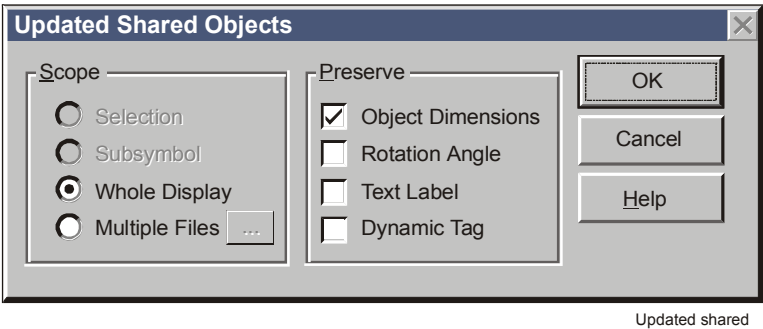

Figure 9-2: Update Shared Objects Dialog Box
Enter a keyword shared by all the objects in the Share Keyword field. Any change can be made to an object of the group and can be applied to the rest of objects by using Update Shared Objects (Figure 9-2).
- 1. On the Edit menu, select Update Shared Objects. The Update Shared Objects dialog box appears (Figure 9-2).